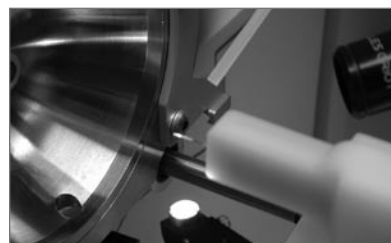

FIGURE 4
4. From a distance of approximately 2 cm, aim the nozzle of canned air spray at the emitter tip (Figure 4)